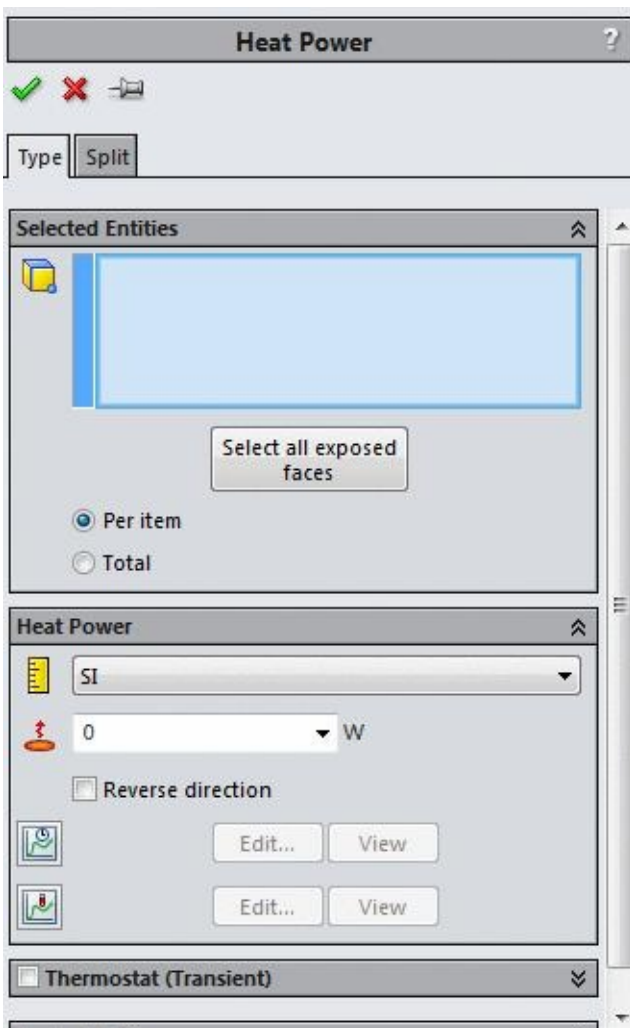

Figure-16. Heat Power PropertyManager
- Click on the down arrow of **Thermal Loads** in the **Ribbon** and select the **Heat Power** button from the list displayed. The **Heat Power PropertyManager** will be displayed; refer to Figure-16.